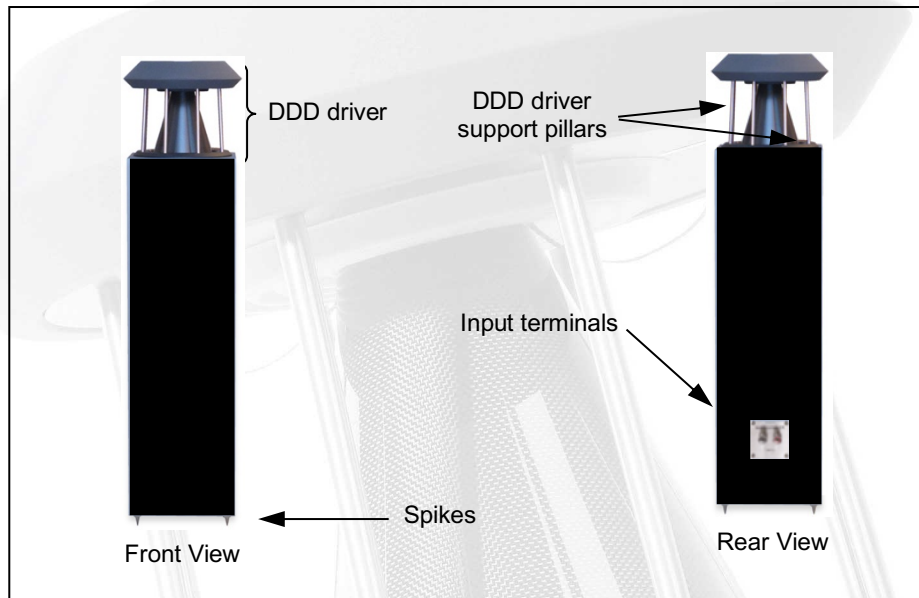

Figure 4. Principle Features of the Ultimate
Do not lift the loudspeakers by the DDD driver support pillars (figure 4) as this may damage the driver.
4. Lift the loudspeaker out of the box by supporting it under the sides of the cabinet and stand it upright on its shipping supports. Do not lift by the DDD driver – see figure 4. When lifting the loudspeaker from the vertical is necessary to place one hand under the base of the loudspeaker. To avoid damaging the woofer, ensure that you only support the base of the loudspeaker by the underside of the cabinet - see figure 3.
The input terminals are located on a panel on the back of the cabinet (figure 4). These can accept spade terminals, banana (5mm) plugs or bare cable.